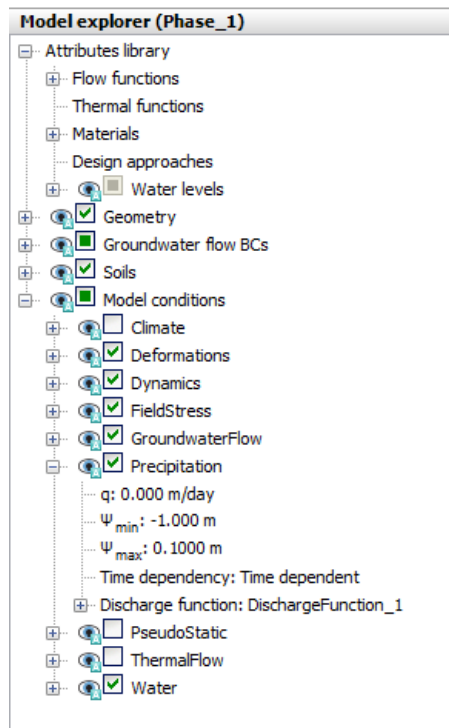

Figure 169: Precipitation in the Model explorer
14. In the **Model explorer** set DischargeFunction_1 under **Discharge function** as shown in Figure 169 (on page 194).